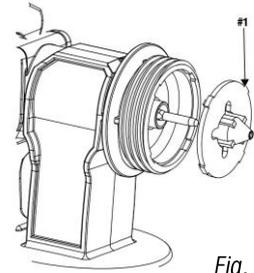

Fig. 1
1. Place the nozzle (#1) on the needle with the recess downwards. Pay attention to the bulges in the nozzle (Fig. 1).